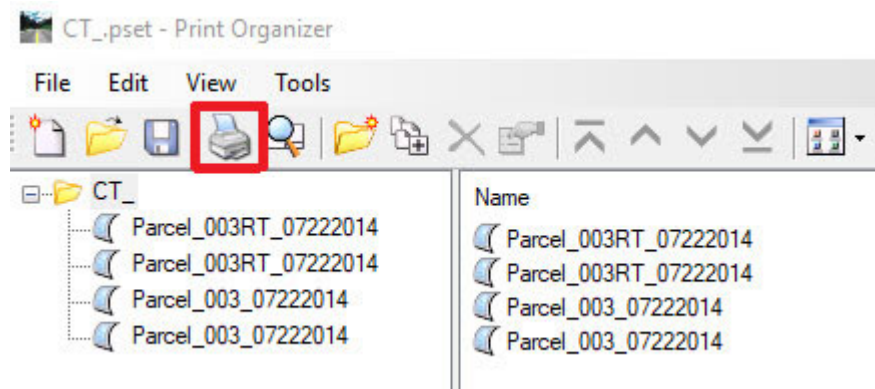

Figure 25 "Print"
Step 8. Next, select the print icon (Figure 25 below)